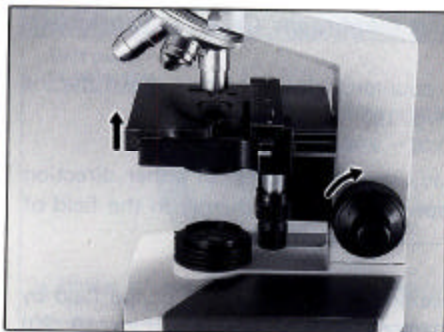

Fig. 16
- ★ Rotate the focus adjustment knobs clockwise (in the direction of the arrow in Fig. 16), and you can raise the stage (or the specimen approaches the objective).